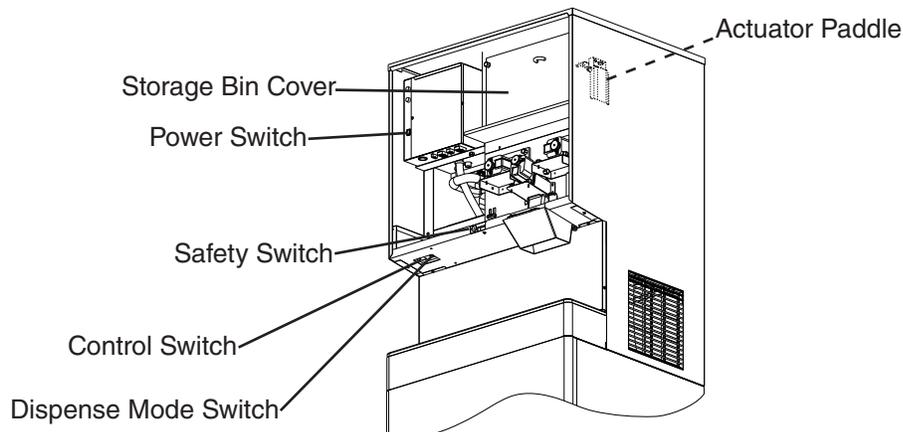

Fig. 5
- 2) Remove the front panel. Move the control switch to the "OFF" position, then move the power switch to the "ON" position. See Fig. 5. Replace the front panel in its correct position, then turn on the power supply. Note: This unit will not run if the safety switch is not engaged.
- 7) Remove the front panel, then remove the storage bin cover. See Fig. 5.